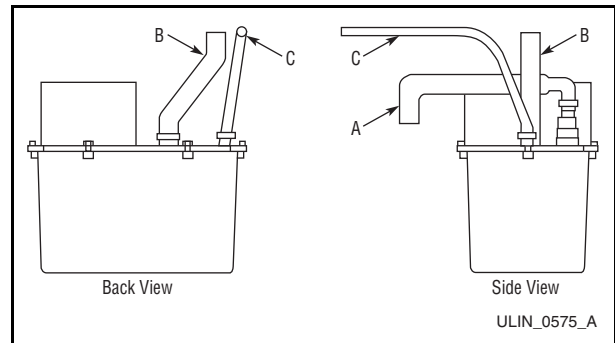

Figure 68
4. Check that the clamps and hose connections are tight at the following areas (Figure 68):
- Discharge tube (A)
- Drain tube (B)
- Vent tube (C)